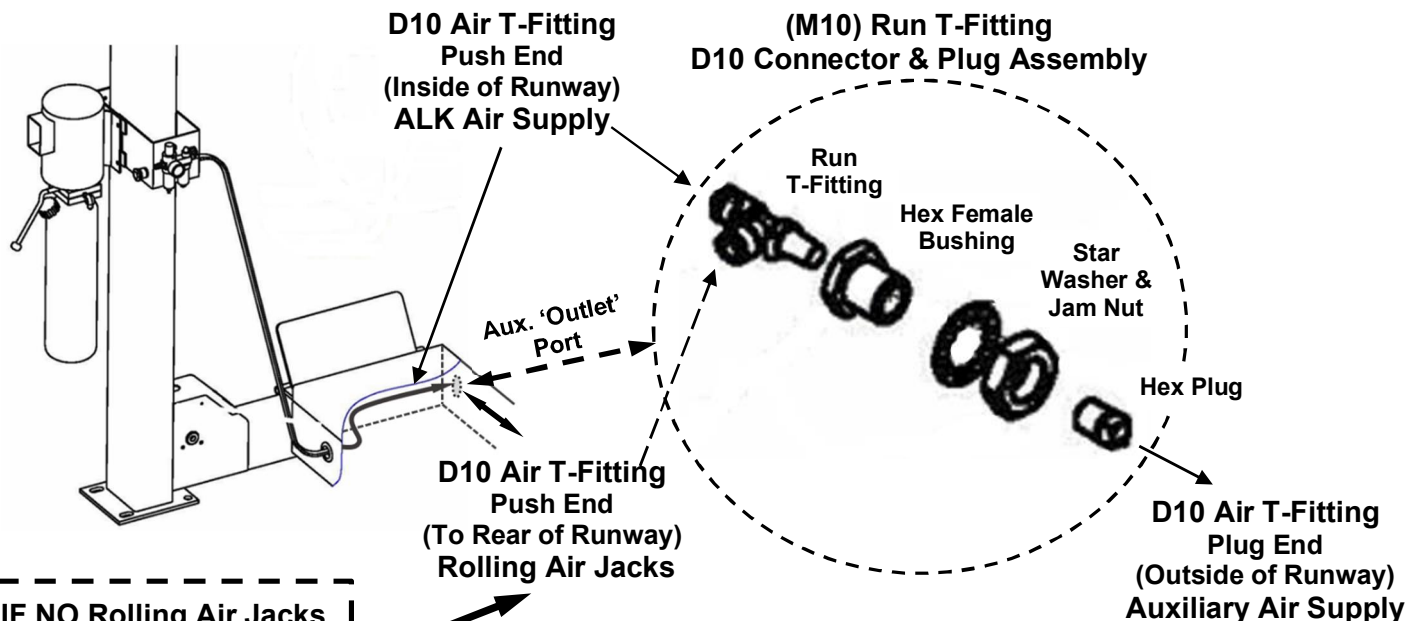

Fig. 7
- 1) For Auxiliary Air Outlet Port. mount the (M10) Run T-Fitting Connector & Plug Assembly to runway port, ensuring the T-section of Run T-Fitting is pointed towards the rear of runway, with the Hex Female Bushing & Plug end inserted through port hole in Runway. Secure T-Fitting with 45mm Jam Nut, **Fig 7**.
- 2) Using the previously routed D10 Airline, cut airline to length (if needed) to connect to the T-Fitting's push end port, directly across, ensuring the D10 airline is routed above & clear of Cable Pulleys, **Figs. 7 & 8**.